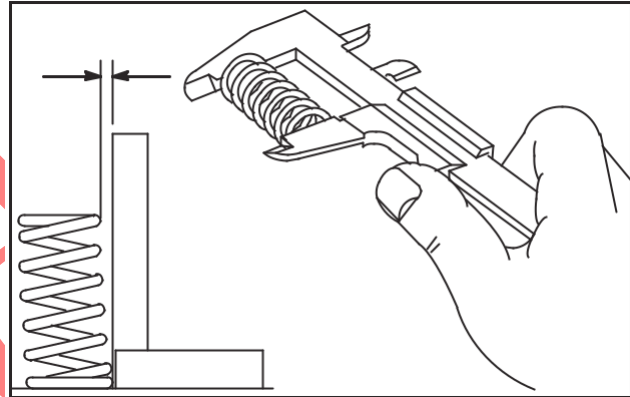

Fig. 24 – Check Valve Springs
5. Check valve springs for squareness and free length, Fig. 24.